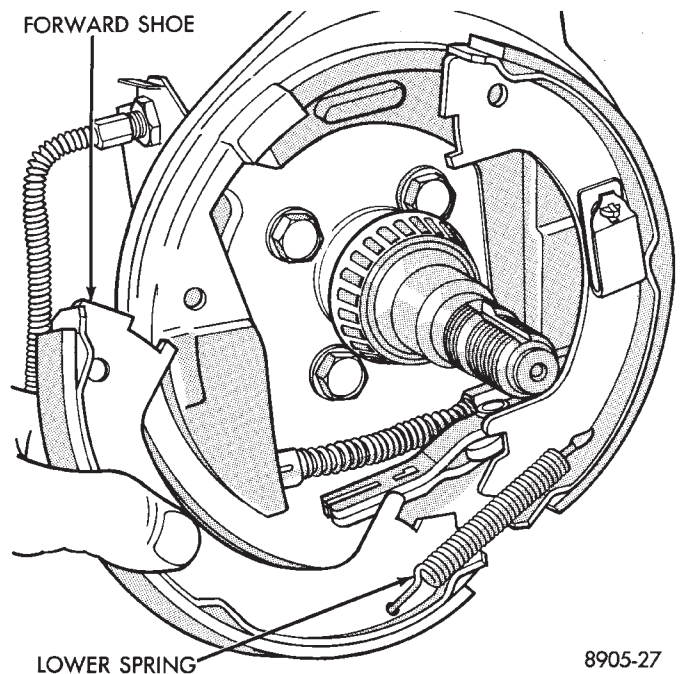

Fig. 4 Removing Shoe and Lower Spring
(10) Pull front parking brake shoe, away from anchor. Then remove front parking brake shoe and lower spring (Fig. 4).